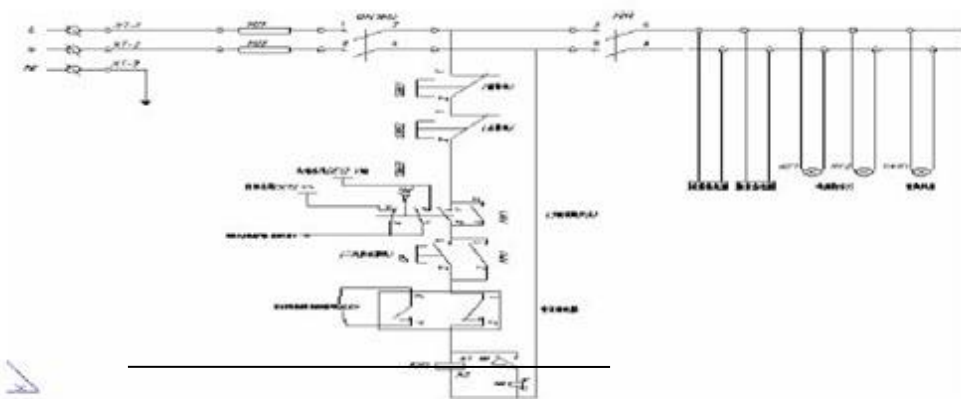

图 4.1 Schematic diagram of electrical structure (一)
The electric system is an important part of security system, mainly to supply the power to the whole security system, at the same time when the accident happens, can provide the corresponding electrical protection system, equipment operation personnel in operating equipment to control the operation of the equipment, the principle diagram of the electrical part of figure 4.1:
Figure 4.1 diagram of the original electrical part (a), FU1 were solid fuse 5A, the actual power equipment for the maximum value of 1000W, followed by the fuse is behind the circuit breaker, so in the back of the case of a short circuit, instantaneous tripping, play a protective role, the reasons for the internal short circuit because of the insulation aging terminal connection, loose power short circuit caused by the cause and human factors.
Fig. 4.1, the electrical part of the original map (1), SBE1 is the tight stop button. The switch is placed near the operator and the security inspection equipment shell, and it can be